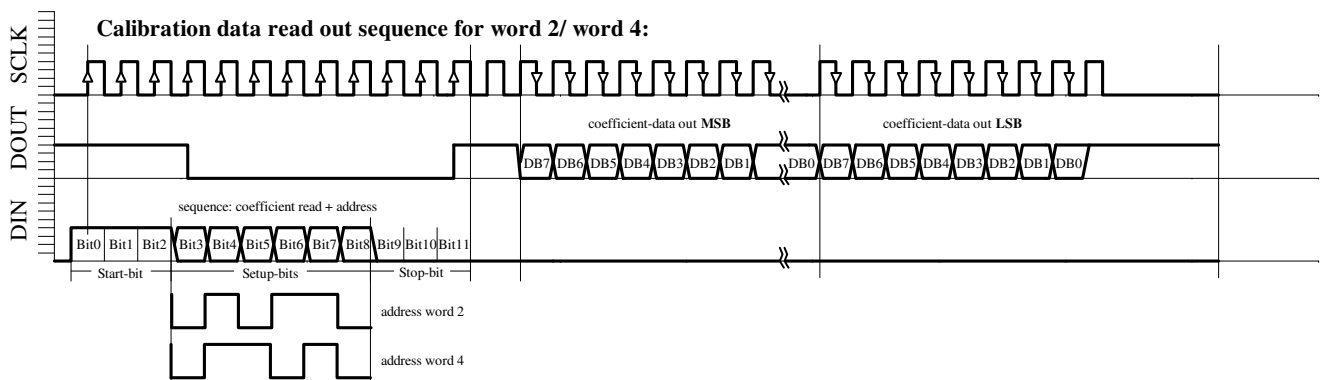

Fig. 6d: W2, W4 reading sequence
- Calibration data read-out sequence for word 2 and word 4 (Figure 6d)